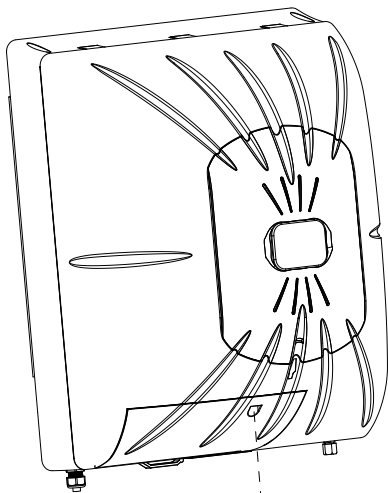

Figure 11
4. Remove the screw that secures the wiring access cover. See Figure 11.
11. Close the access door on the dome and replace the screw. Refer to Figure 11.